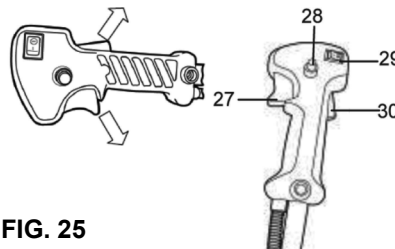

FIG. 25
1. Release the throttle interlock (30) and throttle control (27) and let the product run at its idle speed for 10-15 seconds (Fig. 25).
2. Set the ignition switch (29) to position "O".